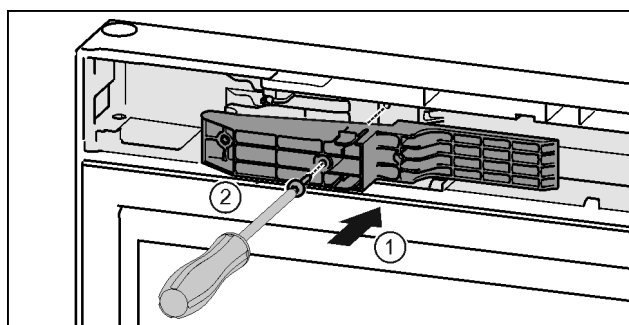

Fig. 47\*
- ▶ Install the adapter on the handle side of the slot.\* Fig. 47 (1)
- ▶ Tighten the screws with the T15 screwdriver.\* Fig. 47 (2)